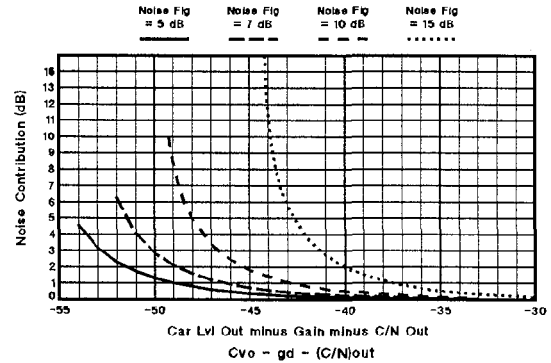

Fig 7 - Preamp Noise Contribution
5. Preamp noise figure: (use Fig 7)
Preamp Noise Figure: 7 dB
Find -47.37 on the x-axis of Figure 7 to find the noise correction value of 1.3 dB on the curve for a noise figure of 7 dB. This means the preamp is adding 1.3 dB of noise at its output so we should add thus: